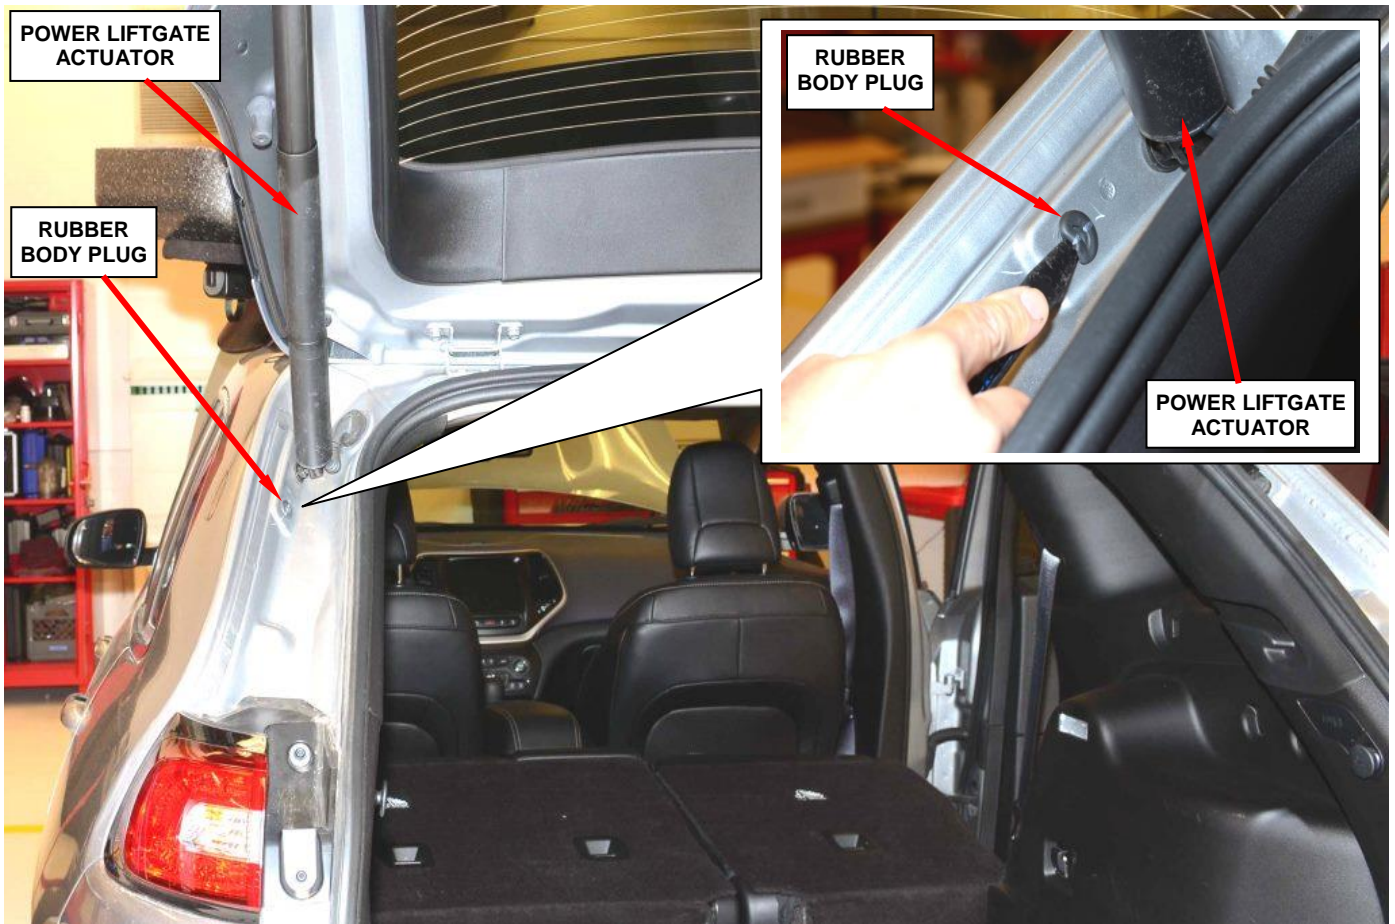

Figure 21 – Remove and Discard Rubber Body Plug
1. Using a plastic trim stick, remove and discard the rubber body plug located near the body side of the power liftgate actuator (Figure 21).